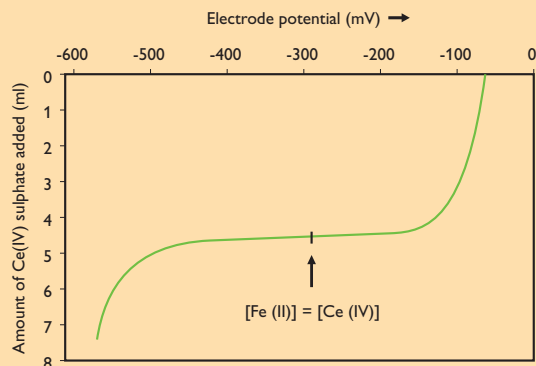

Fig. 1: Potentiometric titration of Fe(II) with Ce(IV) solution, showing the variation of electrode potential during the titration.
The amount of Fe(II) formed is equivalent to the Eu(II) concentration and can be determined by a potentiometric titration with a standard Ce(IV)-sulphate solution. Figure 1 shows a titration curve of this titration and the frontpage (left) depicts the equipment used.